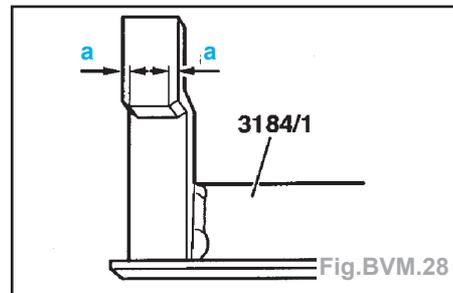

Fig.BVM.28
- Modification du support auxiliaire 3181/1 (Fig.BVM.28) :